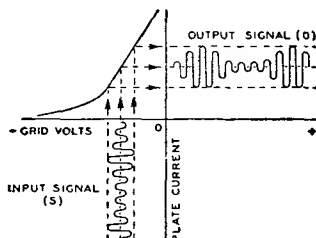

Fig. 13
As a **class A voltage amplifier**, an electron tube is used to reproduce grid voltage variations across an impedance or a resistance in the plate circuit. These variations are essentially of the same form as the input signal voltage impressed on the grid, but of increased amplitude. This is accomplished by operating the tube at a suitable grid bias so that the applied grid-input voltage produces plate-current variations proportional to the signal swings. Since the voltage variation obtained in the plate circuit is much larger than that required to swing the grid, amplification of the signal is obtained. Fig. 13 gives a graphical illustration of this method of amplification and shows, by means of the grid-voltage vs. plate-current characteristics curve, the effect of an input signal (S) applied to the grid of a tube. O is the resulting amplified plate-current variation.